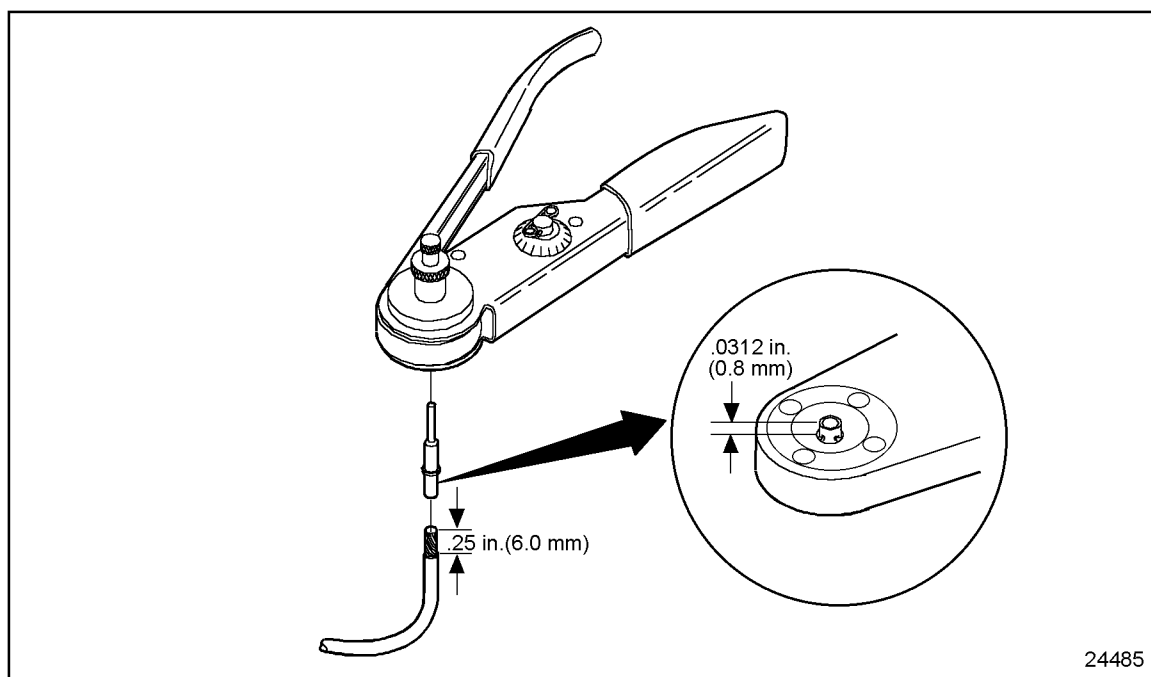

Figure 8-18 **Setting Wire Gage Selector and Positioning the Contact**
4. Position the contact so that the crimp barrel is 1/32 of an inch above the four indenters. See Figure 8-18. Crimp the cable.